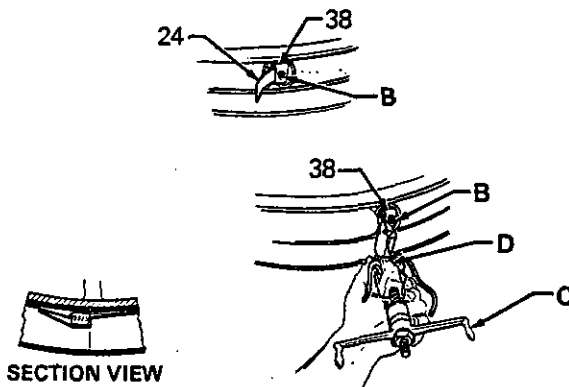

Fig 4
Separate wiper butt joint and bend back the strapping covering clamp setscrew (B). See Fig 4. Loosen setscrews (B), pull end of strapping through clamp and remove wiper.
Pull strapping (24) out of wiper, straighten excess strapping, slide clamp toward end about 3 in. (76 mm) and bend excess strapping over back of clamp (38). See Fig 4. Put strapping through new wiper, put wiper on inductor plate, insert end of strapping through clamp and bend out to hold it. Position so that butt joints of wipers will be 180° apart.
NOTE: You will need the special banding tool (C) shown in Fig 4 to tighten strapping. See ACCESSORIES page.
Insert end of strapping (24) into tool (C) as shown and tighten securely. Turn setscrew (B) in tightly, cut strapping with cutter (D) on tool and bend end back over setscrew. See Fig 4.